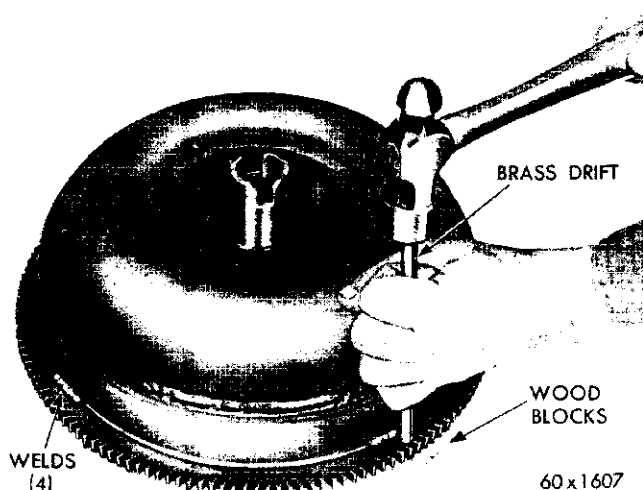

Fig. 91—Removing the Starter Ring Gear
(1) Carefully cut through the weld material at the rear side of ring gear with a hack saw or grinding wheel (Fig. 91). Be careful not to cut or grind into the front cover stamping.
(2) Scribe a heavy line on the front cover next to the front face of the ring gear to aid in locating the new gear.
(3) Support the converter with the four drive lug faces resting on blocks of wood. **The converter must not rest on front cover hub during this operation.** Using a blunt chisel or drift and hammer, tap downward on ring gear near welded areas to break any remaining weld material (Fig. 91). Tap around ring gear until it comes off the converter.
(4) Smooth off weld areas on cover with a file.